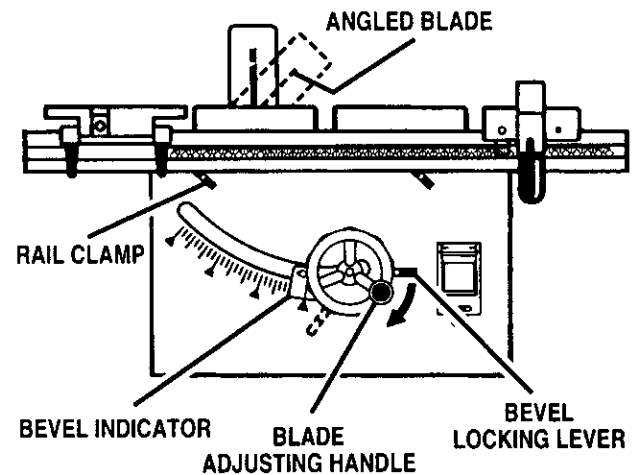

Figure 37
See Figure 37.
- Loosen both front and rear rails by lifting the front and rear rail clamps. See Figure 37.